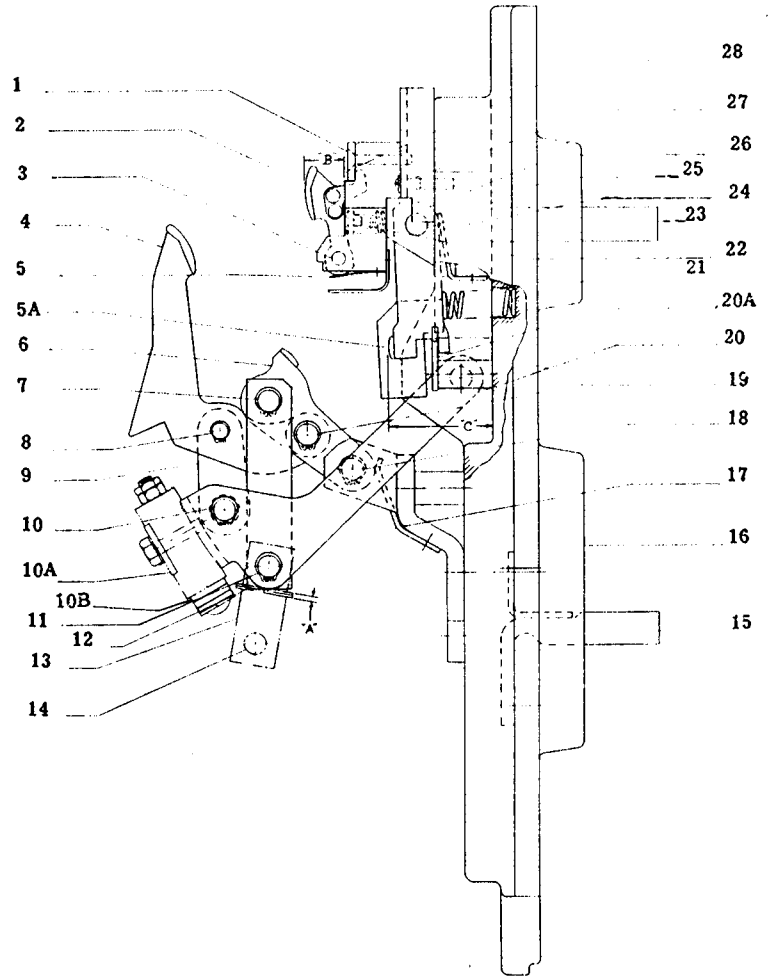
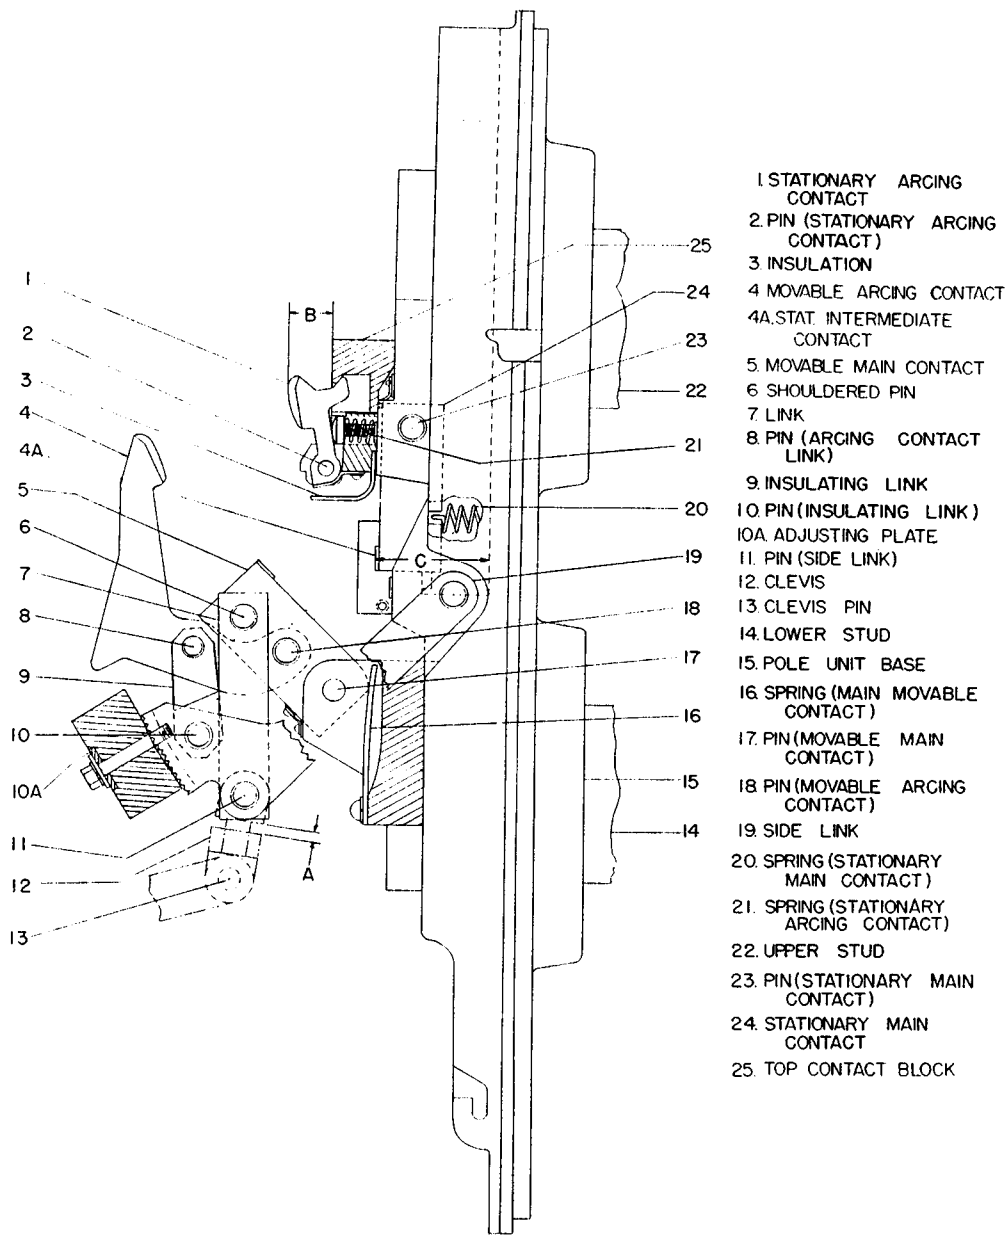

Fig. 6 (0107D7517) Pole unit assembly-AK-50
Fig. 7 (215D174) Pole unit assembly - AK-75 and AK-100
**POLE UNIT ASSEMBLY (Fig. 6)**
**MEASURING CONTACT WIPE (Fig. 6)**
3. Close the breaker and repeat item 2. The difference between the readings in items 2 and 3 determines the wipe of the contacts. For safety reasons be extremely careful not to trip the breaker.
**MEASURING CONTACT PRESSURE (Fig. 6)**
**ADJUSTING CONTACT WIPE AND PRESSURE (Fig. 6)**
2. To change dimension "A" remove the clevis pin (14) and rotate the clevis as necessary.
3. To prevent overstressing the clevis threads (13) dimension "A" should not exceed 3/16 in. and space "A" should be filled with shims to 0.005 in. of being solid.
**CONTACT SEQUENCE (Fig. 6)**
**CONTACT GAP (Fig. 6)**
**REPLACEMENT OF CONTACTS (Fig. 6)**
**Stationary Arcing Contacts (2, Fig. 6) (1, Fig. 7)**
1. Remove the upper plate by removing two screws (1). On the AK-75 and -100 remove the top contact block (25, Fig. 7) and remove insulation (3, Fig. 7).
2. Loosen screws holding spring. (5)
3. Remove pin (3) freeing the stationary contacts and springs (22).
2. Remove pins (8) and (19) and withdraw the contacts.
**Stationary, Intermediate and Main Contacts (Fig. 6)**
5. Remove pin (25) and screws (27) and lift out contacts.
**Movable Intermediate and Main Contacts (Fig. 6)**
2. Loosen spring (17).
4. Slide link (12) to the side and off of pin (7).
5. Slide pins (7) and (18) far enough to the side to allow the movable intermediate contacts to be replaced.